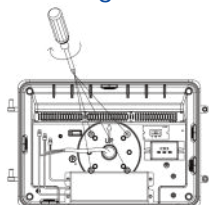

Fig. 1.5
5. Affix the mounting plate with screws and connect the wires (L,N,G) to the power supply (Fig 1.5)